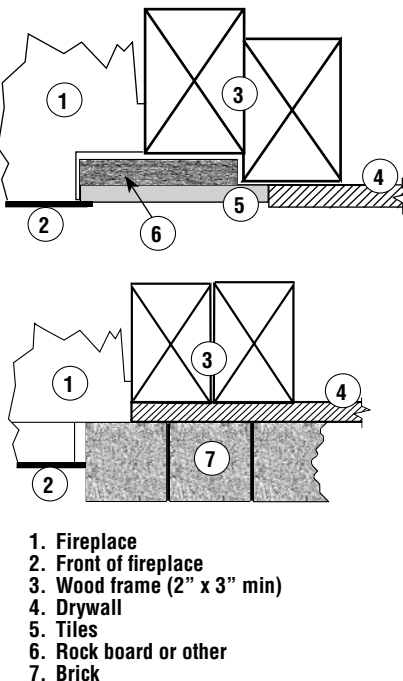

Figure 12
2. Non-combustible materials such as brick, stone or ceramic tile may project in front of and onto the fireplace facing (Figure 12).